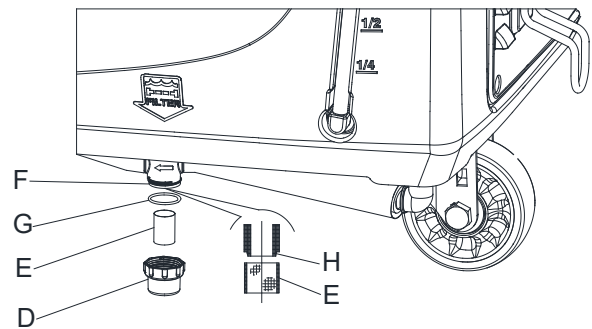

Figure 5
4. Remove the cover (D, Figure 5), then remove the filter strainer (E). Clean and install them on the support (F).